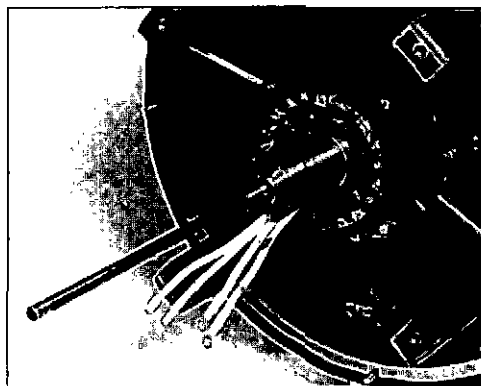
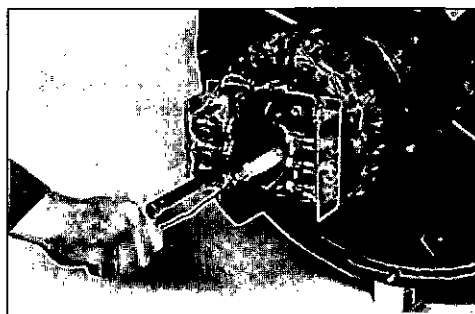

Figure 6-70
Figure 6-71
1. Attach a wire to the main rotor leads and feed the wire through the armature bore and out the lead hole in the aluminum standoff plate. On larger exciters, it will be helpful to install a guide pin in the end of the shaft to support the armature while fishing the rotor leads through (figure 6-70). Align the key in the armature bore to the keyway in the shaft. Slide the armature on the shaft while feeding the main rotor leads through the lead hole in the aluminum standoff plate (figure 6-71).